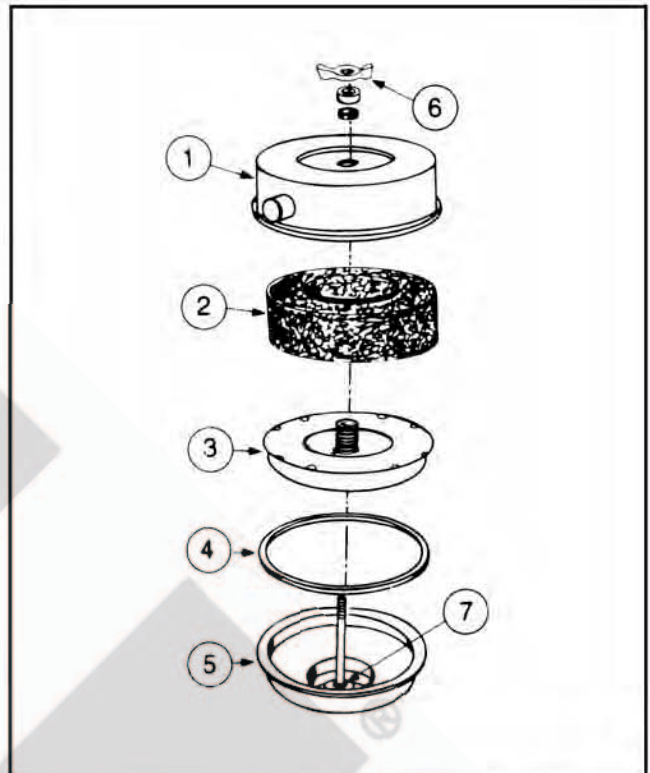

Fig. 2-20. Crankcase breather - mesh element with vapor barrier
1. Remove the wing nut (6, Fig. 2-20), flatwasher and rubber washer securing the cover (1), to the breather body (5).
2. Lift off the cover and lift out the breather element (2), vapor element (3), and gasket (4).